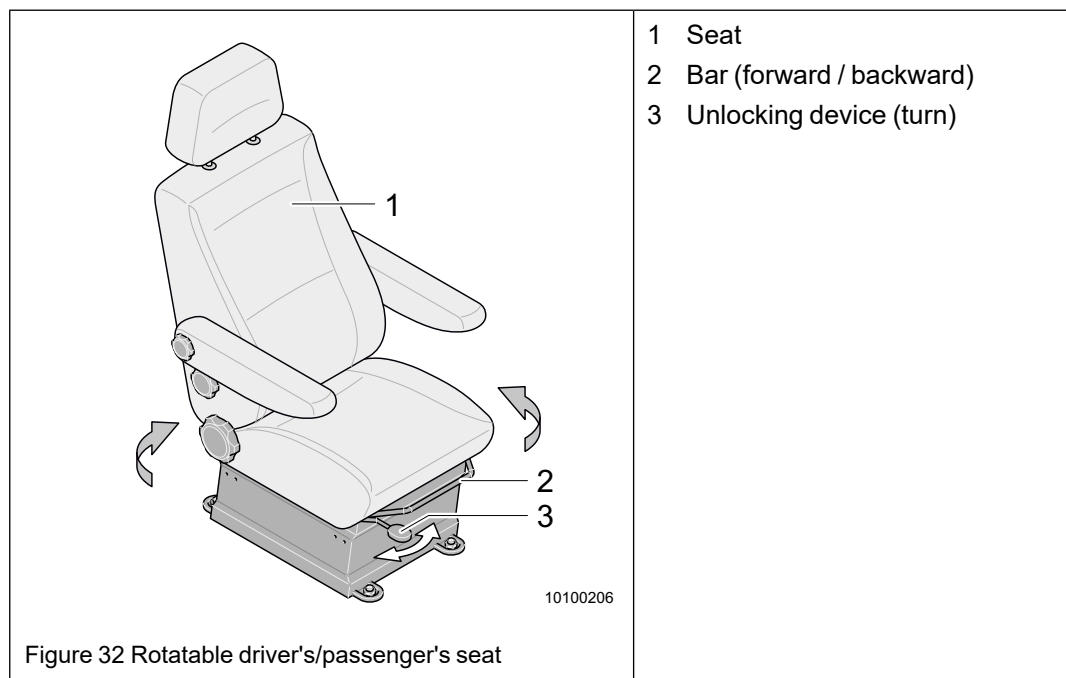

Figure 32 Rotatable driver's/passenger's seat
- ➔ Unlock the seat from the lever (Figure 32/3).
- ➔ The seat Figure 32/1) can now be rotated to the desired position.
- ➔ Check the lock Figure 32/3) is engaged.